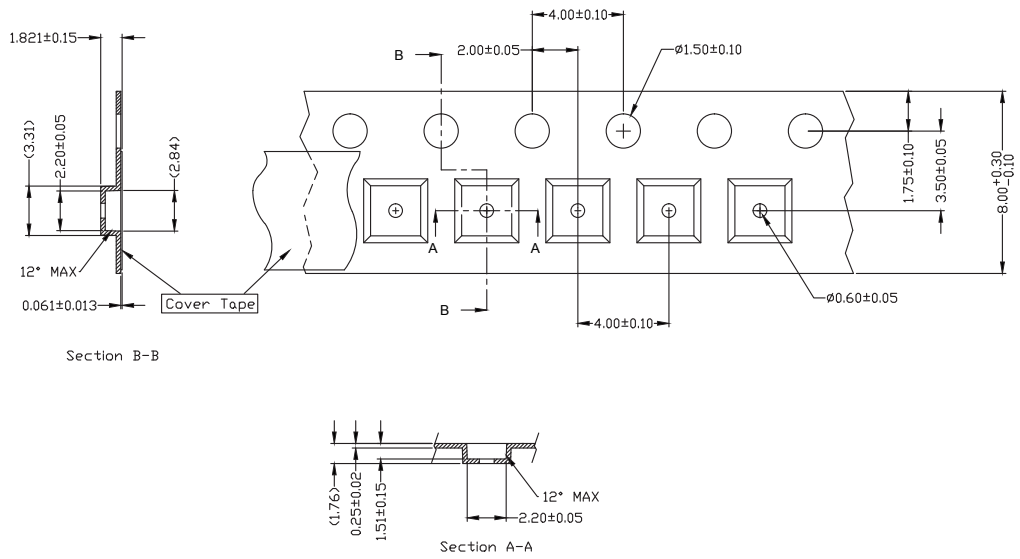

Figure 10a. Pocket tape dimensions for LUXEON SunPlus 20 Line.
- Notes for Figures 10a and 10b: